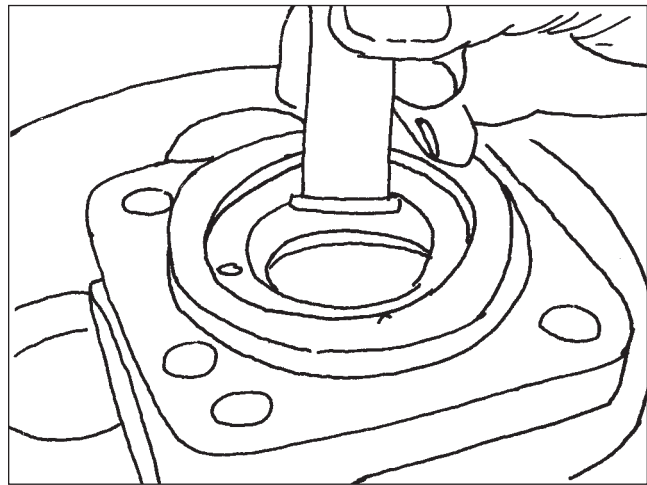

Figure 73
14. Turn the cap over and install the input shaft seal using a seal driver. Insure the lip of the seal is facing you (toward pressure). Press the seal in until it bottoms, using an arbor press (Figures 73 & 74).